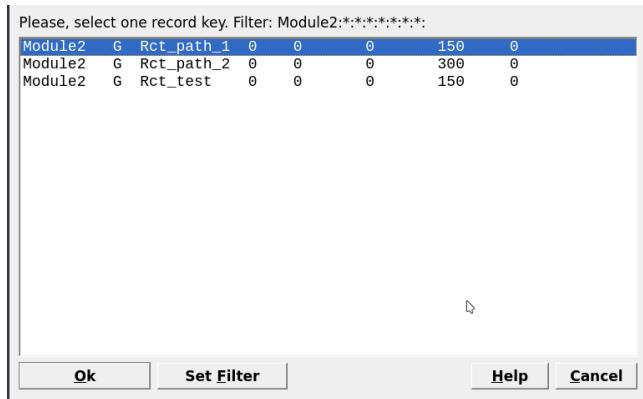

Figure 2.5: Select a parent chemical system ('SysEq') for modeling a 'Process'.
- Click **Create a record from scratch** in Panel 1 and select your parent chemical system **SysEq** calculated previously at 150 °C (Fig. 2.5).